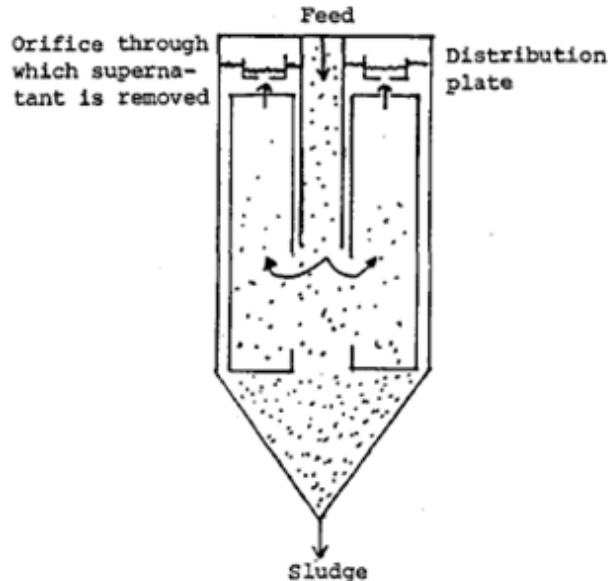

Fig. 3. Brown, Deborah J. 2018. "Design of Lamella Separators. Part 2". figshare. <https://hdl.handle.net/2134/36469>.
- **Flow Distribution.** Traditional lamella separators utilize submerged orifice holes or v-notch weirs on the effluent launder to ensure equal hydraulic loading to each surface (Fig 3). This results in a typical pressure drop (headloss) of 2"-3" (5-8 cm) (minimum).3